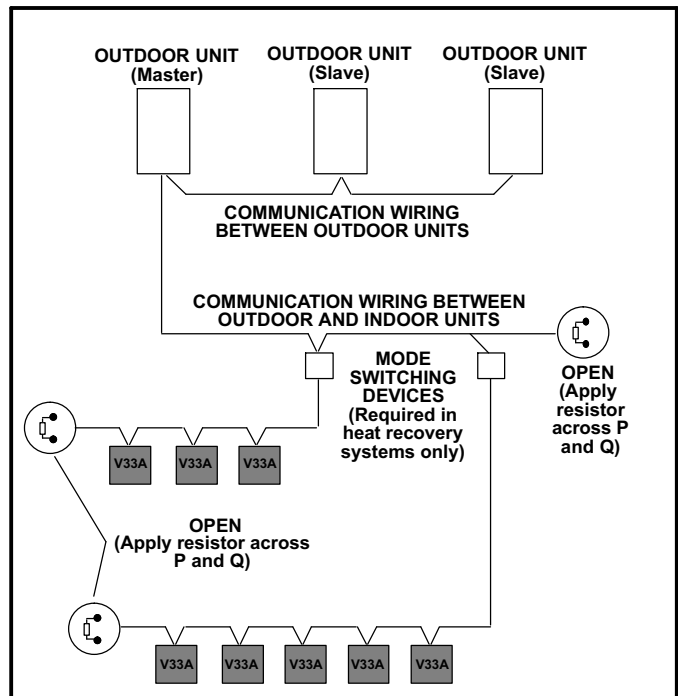

Figure 13. Typical Series Wiring of Indoor Units (with resistors)
- 3 - If the indoor unit is the final unit in a group that is wired in series, install the provided resistor across terminals P and Q. Refer to figure 13.